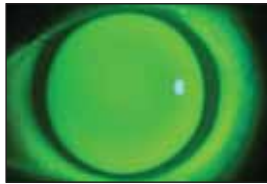

Figure 11: Optimal fitting of a SynergEyes PS lens
6. The ideal fit will demonstrate (Figure 11):